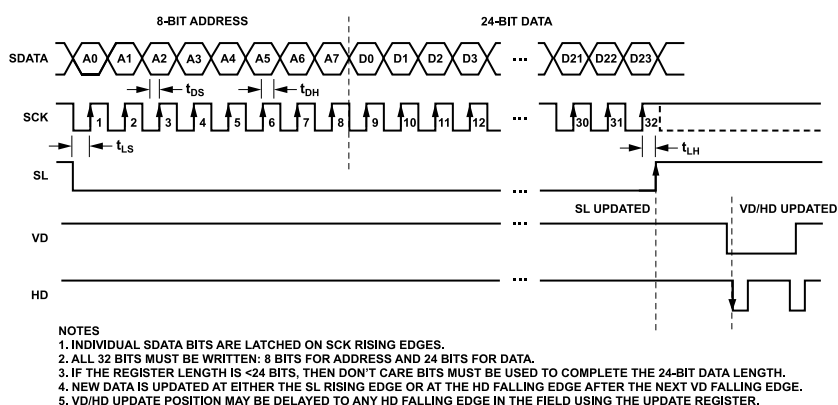

Figure 15. Serial Write Operation
The AD9949's internal registers are accessed through a 3-wire serial interface. Each register consists of an 8-bit address and a 24-bit data-word. Both the 8-bit address and 24-bit data-word are written starting with the LSB. To write to each register, a 32-bit operation is required, as shown in Figure 15. Although many registers are less than 24 bits wide, all 24 bits must be written for each register. If the register is only 16 bits wide, then the upper eight bits may be filled with zeros during the serial write operation. If fewer than 24 bits are written, the register will not be updated with new data.
2. All registers are VD/HD updated as shown in Figure 15, except for the registers indicated in Table 7, which are SL updated.